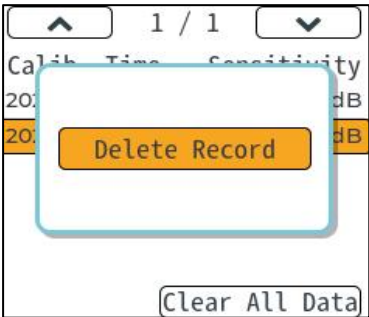

Figure 7-3-3-5 Delete record
(5) Deleting records: Select the record to be deleted on the calibration record screen, then long-press the OK key to delete that specific record directly, as shown in Figure 7-3-3-5.